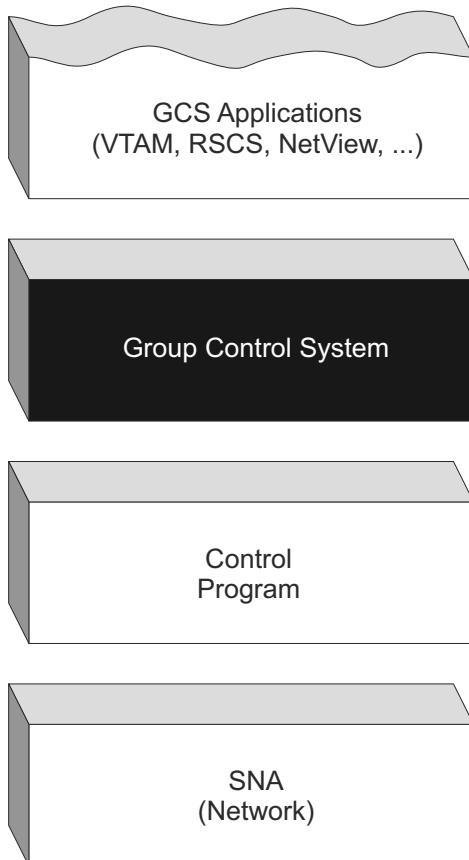

Figure 1. Group Control System, an Interface between Applications and the Control Program
- z/VM®'s Control Program (CP), Figure 1 on page 1.